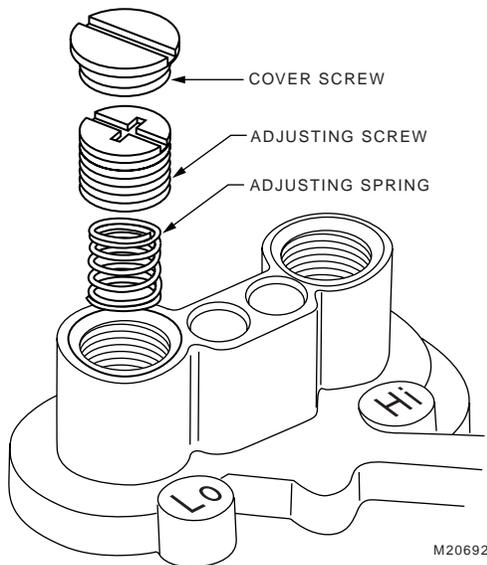

Fig. 7. Installing the spring kit into the V4944N.
Valve Leak Test (See Fig. 7).
1. De-energize the control system to make sure there is no power to the safety shutoff valve (C) shown in Fig. 7.
2. Close the upstream manual gas cock (A).
3. Make sure the manual test petcock (F) is closed in the leak test tap assembly (D).
4. Remove the leak test tap plug (valve outlet pressure tap can be used as a test tap) and connect the test apparatus to the leak test tap (D).
5. Close the downstream manual gas cock (E).
6. Open the upstream manual gas cock (A).
7. Run the safety shutoff valve (C) to its fully open position (through the safety system); then immediately de-energize the system to close the valve.
9. Slowly open the test petcock (F).
Installing and Adjusting Spring Kits (Fig. 7)
4. Adjust the gas output pressure with the adjustment screw (see Fig. 7).
3. Verify that the low and high fire regulating spring kits have been installed. Remove the cover cap and make sure the adjusting screw is in place (see Fig. 7).